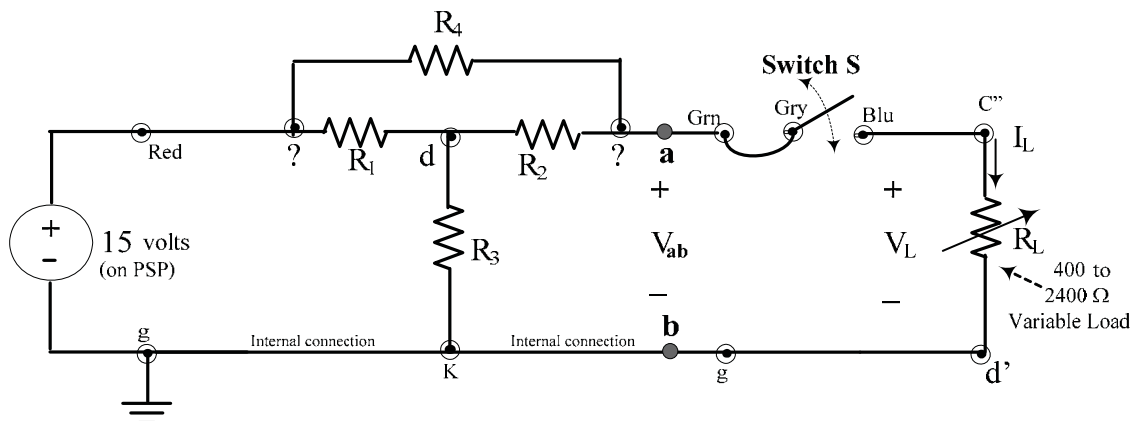

Figure 2.6: Circuit used for verification of Thevenin's & the MPT Theorems
The circuit shown in Figure 2.6 will be used for the verification of the Thevenin and MPT theorems. The network is constructed using the fixed resistors for  $R_1$ ,  $R_2$ ,  $R_3$  and  $R_4$ . The variable resistor (400  $\Omega$  to 2400  $\Omega$ ) is used as a variable load  $R_L$ . The Gray and Green terminals of the on-board SPDT switch  $S$  are connected together so that  $S$  acts as a SPST switch which can be used to connect or disconnect the load  $R_L$  from the circuit to the left of terminals a-b, whose TEC is to be determined.. The +15 volt output from the PSP is to be connected to the 'Red' terminal , as in Part A, and the Gry-Grn terminal of effective SPST switch  $S$  is designated as the output terminal of the complete circuit to the left of terminals a-b . The Blue terminal of  $S$  is connected to the load so that toggling  $S$  to the right will connect the load to the TEC while toggling it to the left will disconnect the load from the TEC.
The theoretical Thevenin resistance  $R_T$  for the circuit of Figure 2.6 is the resistance seen from the right (between the Gry/Grn terminal of  $S$  and 'g'), with  $R_L$  disconnected and with the 15v source **replaced by** a short-circuit [Do not short circuit the source !]. That is,
- Construct the circuit of Figure 2.6 using any of the sets of values given in the table above. A typical setup (showing onboard connections corresponding to the last set in the table) is shown in Figure 2.7. **Make sure the PSP is turned OFF** and switch S is toggled to the left.